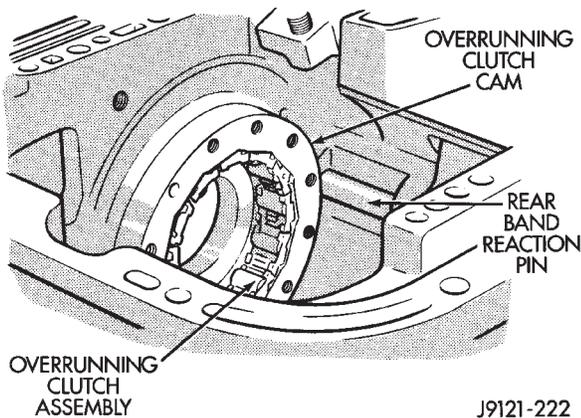

Fig. 128 Overrunning Clutch Assembly Removal
- (31) Remove low-reverse drum and reverse band.
- (32) Remove overrunning clutch roller and spring assembly as a unit (Fig. 128).